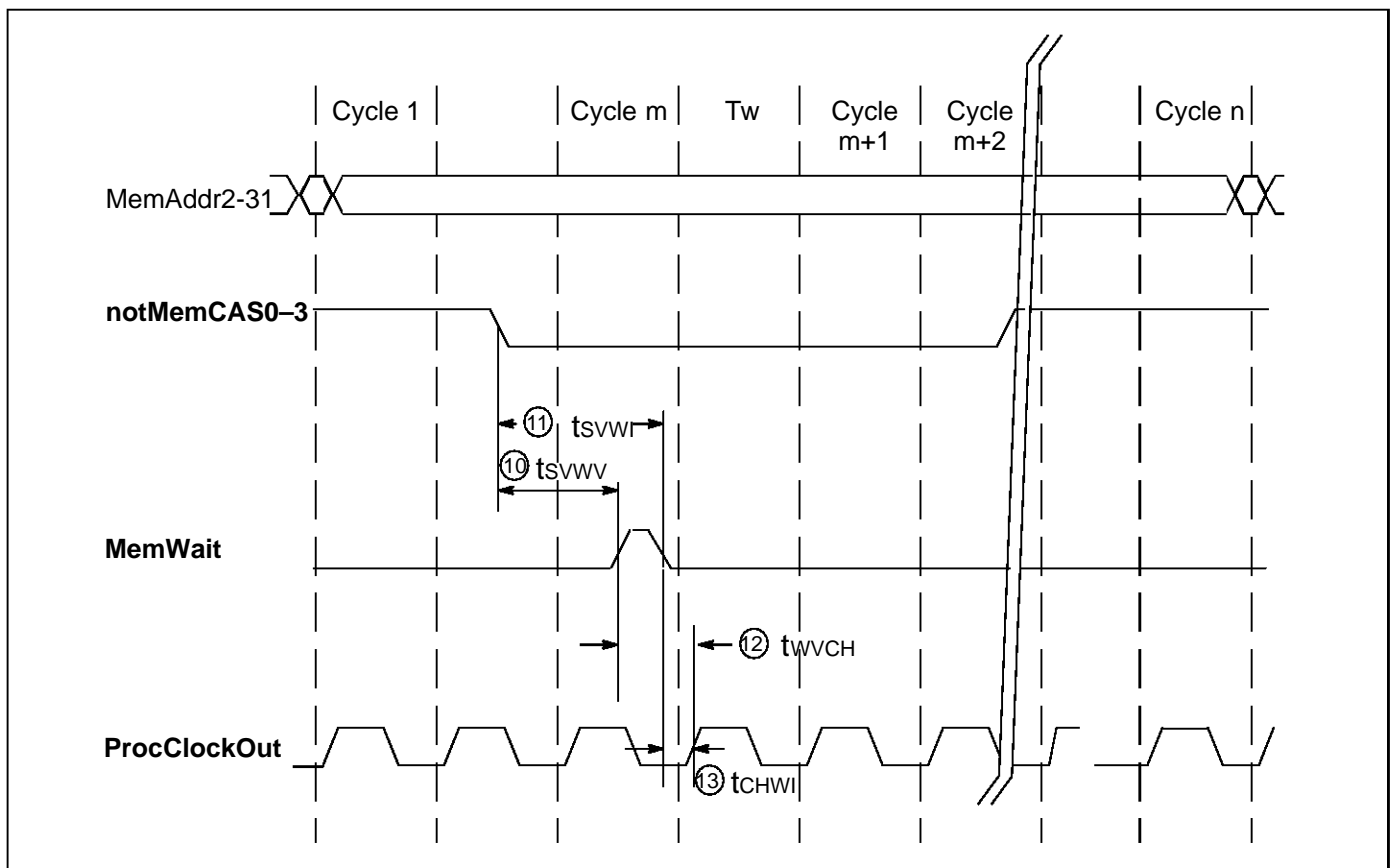

Figure 3.8 Memory wait timing
- S The **MemWait** pin is sampled during every clock cycle of the **RASTime** and the **CASTime** only. The sampling point is defined by  $t_{svwv}$  and  $t_{svwl}$  (see Table 3.3 and Figure 3.8).